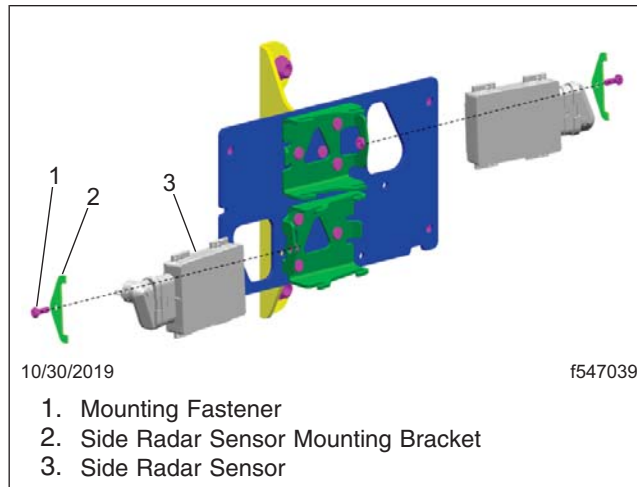

Fig. 2, Side Radar Sensors Replacement
- Remove the two fasteners that attach the side radar sensor mounting bracket to the radar mounting plate, then remove the mounting brackets. See Fig. 2.